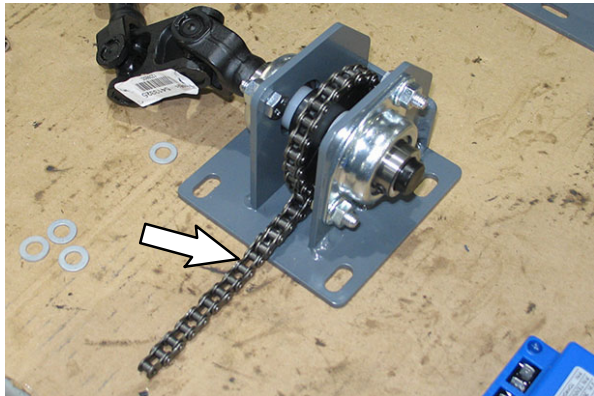

FIG. 16
16. Install the chain onto the steering bearing assembly. (Fig. 16)